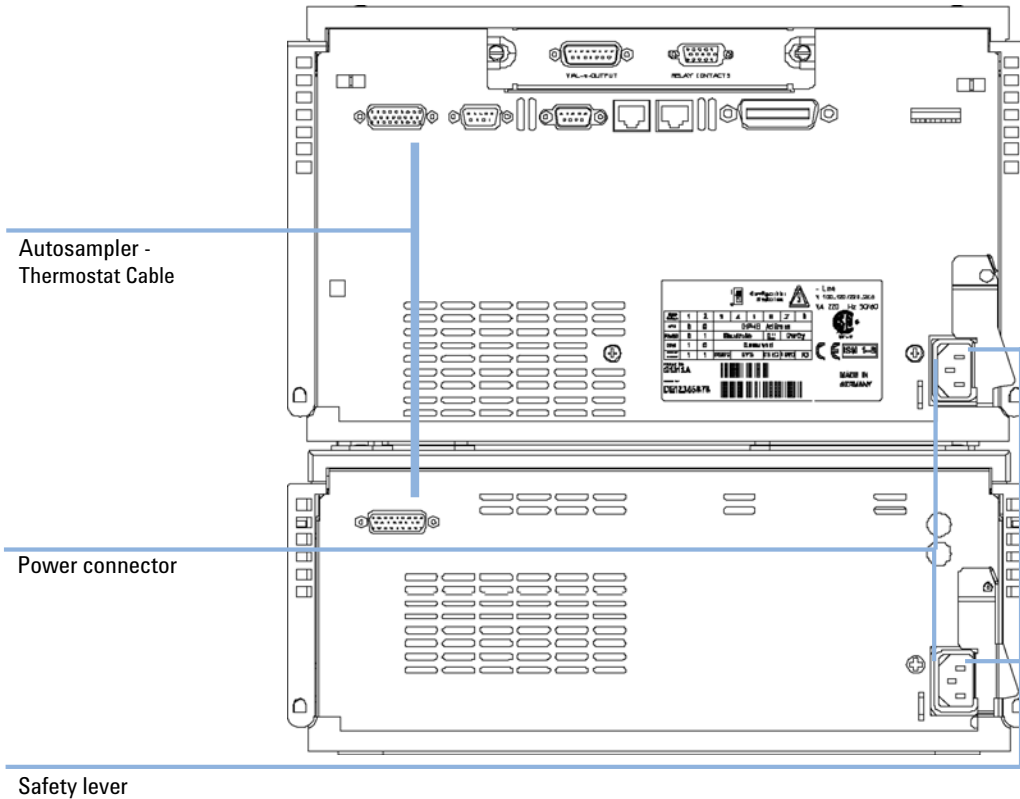

Figure 10 Power Connectors and Safety Levers at Rear of thermostatted Autosampler.
- 2 Connect the cable between the autosampler and the autosampler thermostat, see Figure 10 on page 31.
- 3 Move the safety lever at the rear of the two modules to the right position, see Figure 10 on page 31.